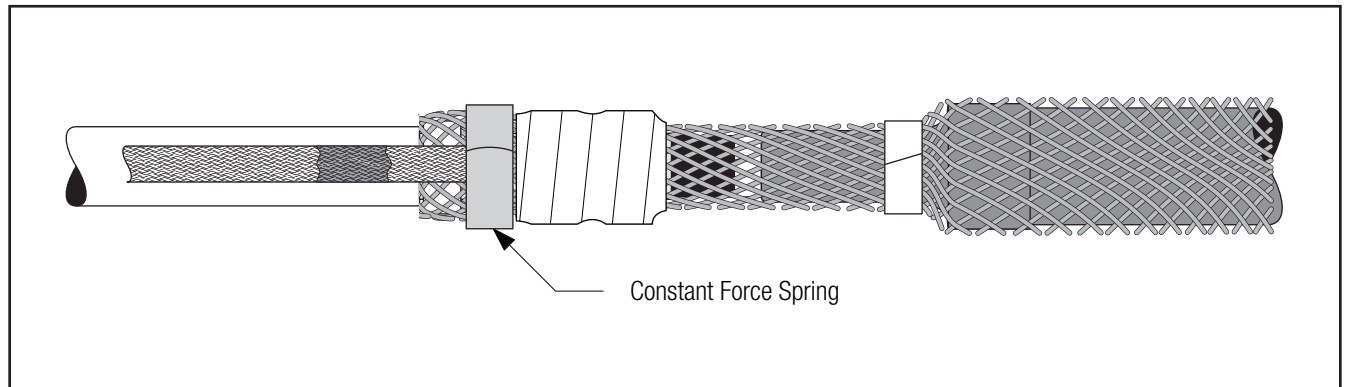

Figure 37
- 7.2 Secure ground strap to the shield sleeve using a constant force spring (*Figure 37*).